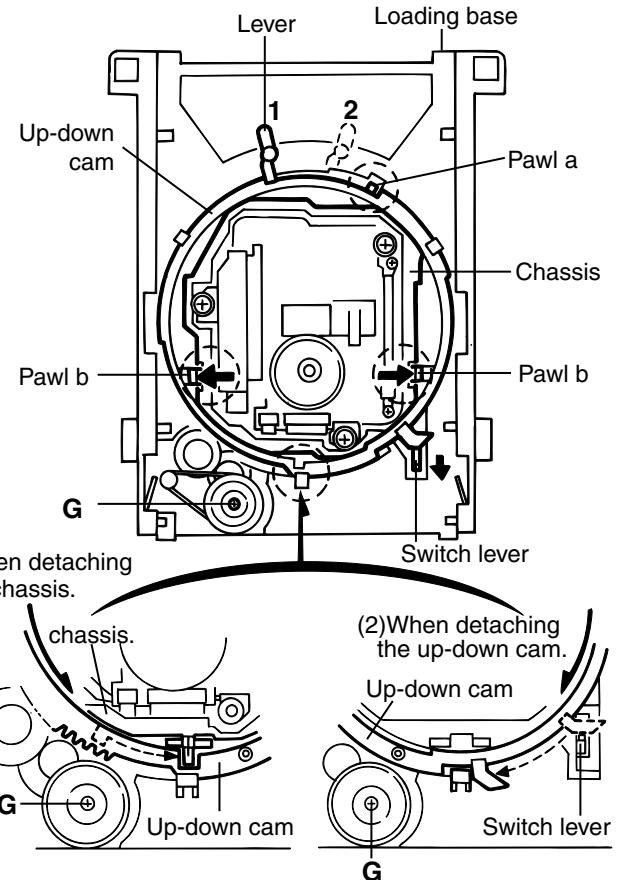

Fig.10
■ Removing the loading mechanism parts (See Fig.10~11)